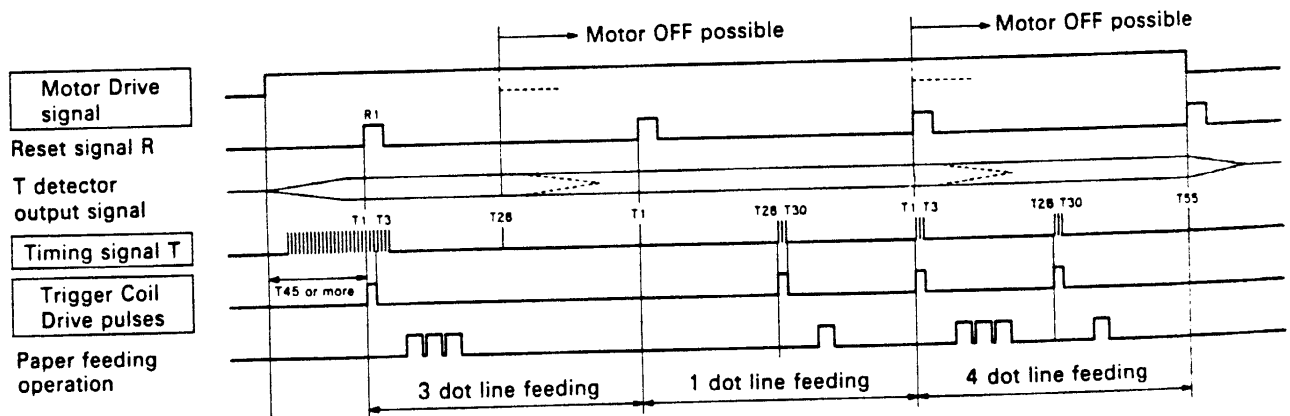

Fig. 1-32. Timing Chart of Paper Feeding (Model-262)
2. Paper Feeding (see Fig. 1-32)